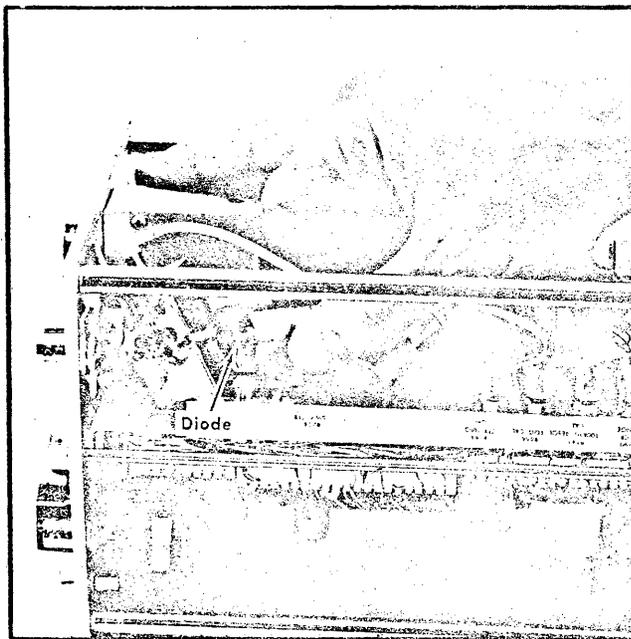

Fig. 4-7. Location of the mixer diode.
3. Unscrew the barrel (1 dB pad) (see Fig. 4-7) and replace the mixer diode.